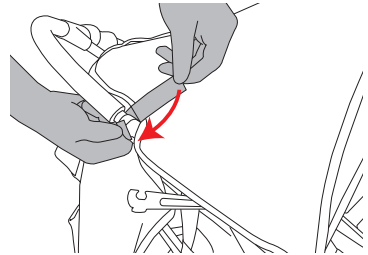

Figure 20
- Attach the Velcro® tabs at the top rear corners of the canopy to the handle tubes just below the handlebar foam. See Figure 20.